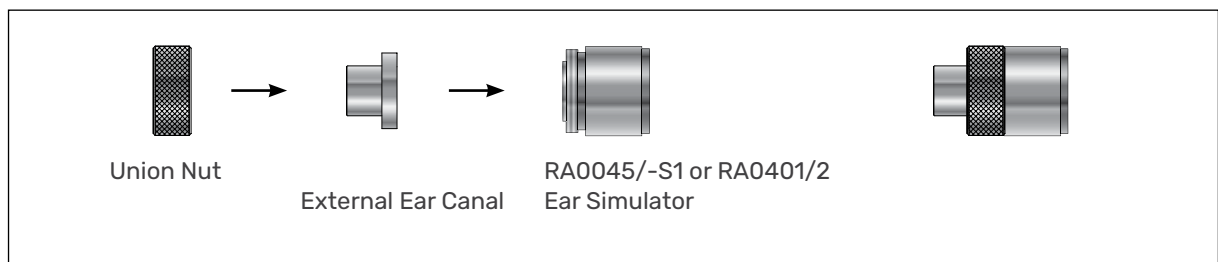

Fig. 21. Showing the External Ear Canal and Union Nut. For clarity, preamplifier and cable are not shown.
2. Mount the external ear canal with the union nut onto the ear simulator as shown in Fig. 21.